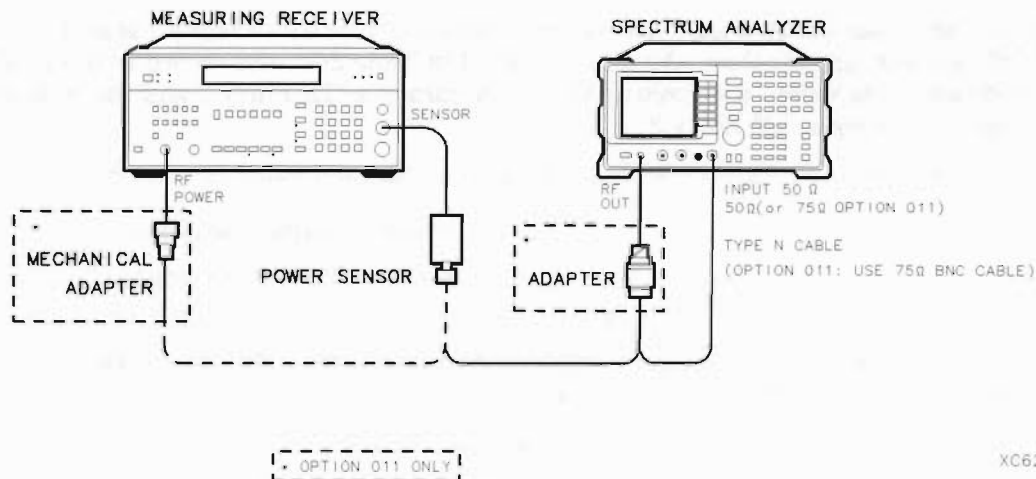

Figure 2-87. Absolute Amplitude, Vernier, and Power Sweep Accuracy Test Setup
1. Connect the Type N cable between the RF OUT 50 Ω and INPUT 50 Ω connectors on the spectrum analyzer. See Figure 2-87.
5. Disconnect the Type N cable from the RF OUT 50 Ω and connect the 100 kHz to 1800 MHz power sensor to the RF OUT 50 Ω as shown in Figure 2-87.